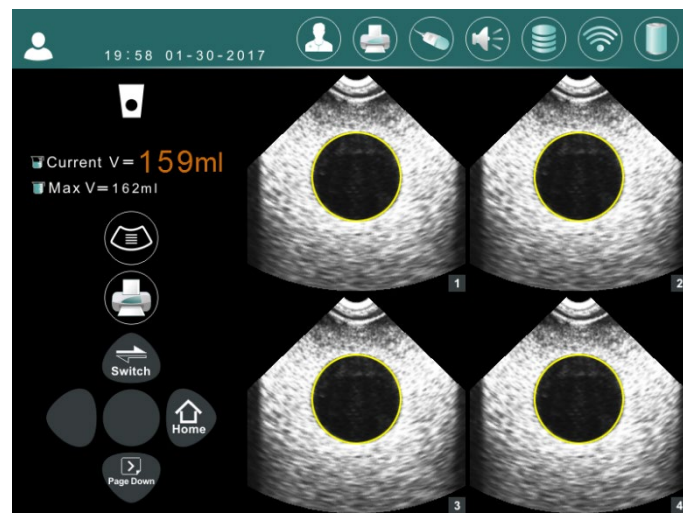

Figure B-4 Clear result image
B.5 Enter Scan interface by pressing SCAN key to get its result. Check result image by pressing UP key, As Figure B-4. Ensure both edges of green line and the round dark area(Target) are overlapped in all scan images.